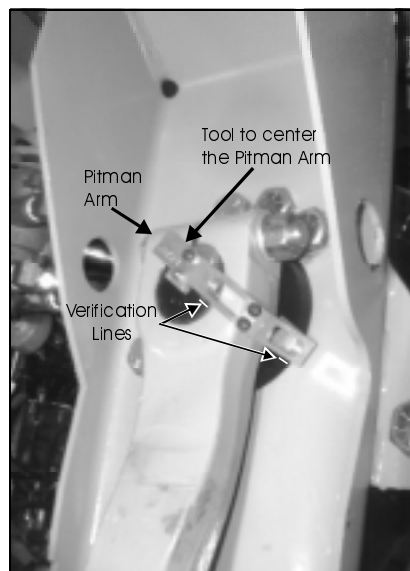

FIGURE 5:PITMAN ARM
4. Center the pitman arm using the appropriate tool. The pitman arm is centered when the tool is in line with the two verification lines (Fig. 5).